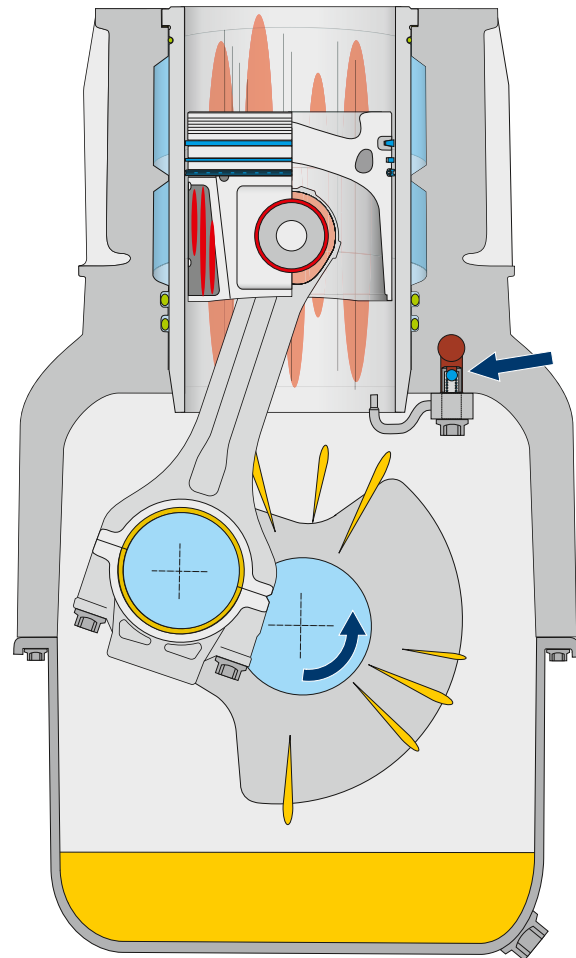

Fig. 1: poor lubrication with excessive idle operation
- Not enough oil emerges from the engine bearings, with the result that too little oil is sprayed onto the cylinder wall. Dirt and abrasion are not washed off, which causes considerable premature wear or even damage (Fig. 1).
- The pressure valve (arrow in Fig. 1) for the piston cooling spray does not open at idle. The piston is not cooled and a lack of oil droplets leads to poor lubrication at the gudgeon pin and the small end bush.